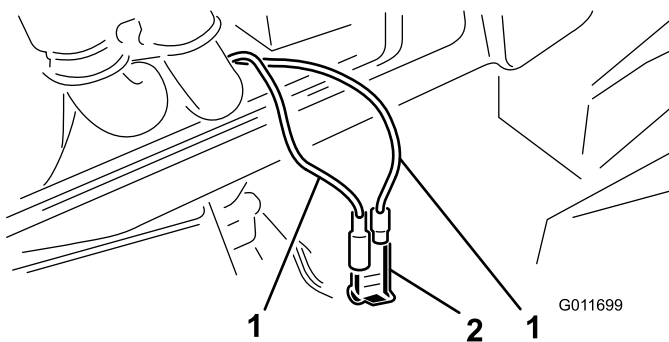

Figure 55
3. Locate the two capped counterbalance jumper wires inside the compartment (Figure 55).